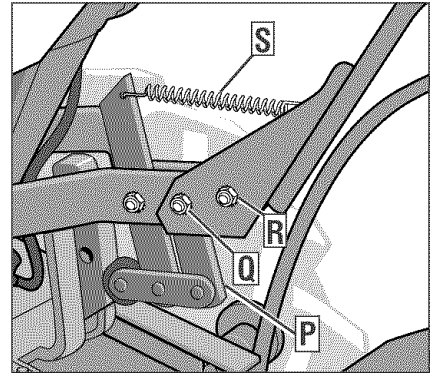
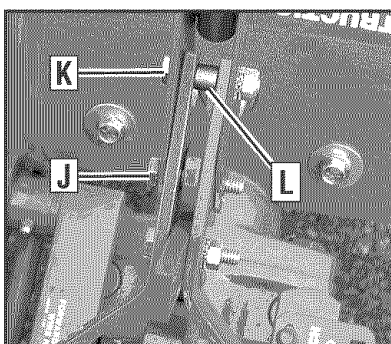
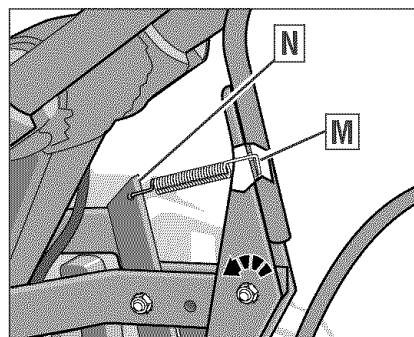

Figure 2-9: Fully assembled Wheels/Tines/PTO Lever assembly.
Figure 2-7: Drive Lever assembly.
Figure 2-8: Clutch pawl spring. Tilt Wheels/Tines/PTO Lever fully forward before installing spring.
3. Slide the plates at the end of the Wheels/Tines/PTO Lever over the yoke plates (Figure 2-9). To aid in the next step, insert a screw temporarily into the forward most holes (J, Figure 2-7) of the
5. Retrieve the clutch pawl spring (Figure 2-8) from hardware bag.
Remove the temporary screw (J, Figure 2-7) from the forward holes and move the Wheels/Tines/PTO Lever fully forward. Install the wider hook end of the clutch pawl spring (M, Figure 2-8) down into the small hole at the end of the handle. Use pliers to insert the other end into the hole in the long link bar (N).
6. Pull the Wheels/Tines/PTO Lever back to align the forward most holes (Q, Figure 2-9) in the yoke plate with the holes in the lever plates. Also align the bushing that is inside the short link bar (P). Install the screw, star washer, and nut, then tighten securely.
Securely tighten all other hardware (Q, R, Figure 2-9). Also ensure that the spring (S) is properly seated at both ends.
Completed assembly should appear as illustrated in Figure 2-9.